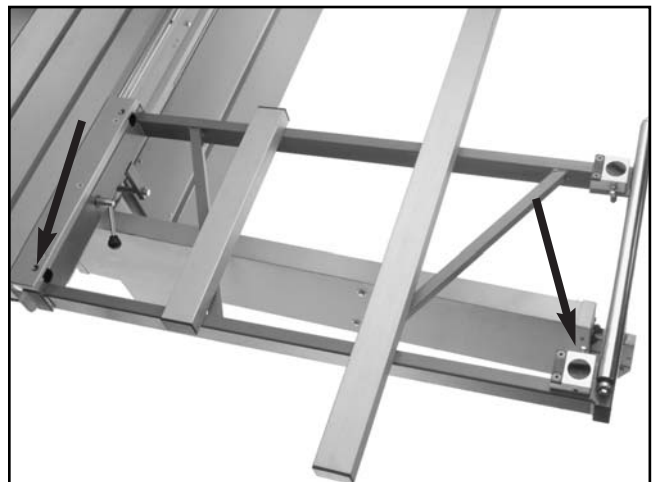

Figure 67. Guide pin holes used when mounting the crosscut fence for rip cutting operations.
3. Install the crosscut fence in the guide pin holes shown in **Figure 67** and lock it in place with the cam locks. Note—*First, drop the crosscut fence into the outside edge guide pin hole, then drop the other end of the crosscut fence into the guide pin hole closest to the sliding table.*